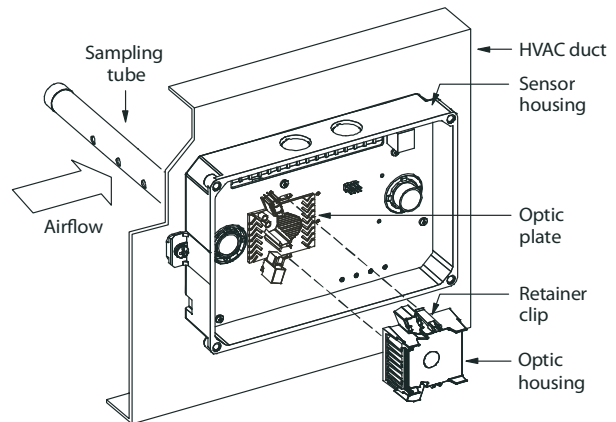

Fig. 26 – Sensor Cleaning Diagram
1. Disconnect power from the duct detector then remove the sensor's cover. (See Fig. 26.)